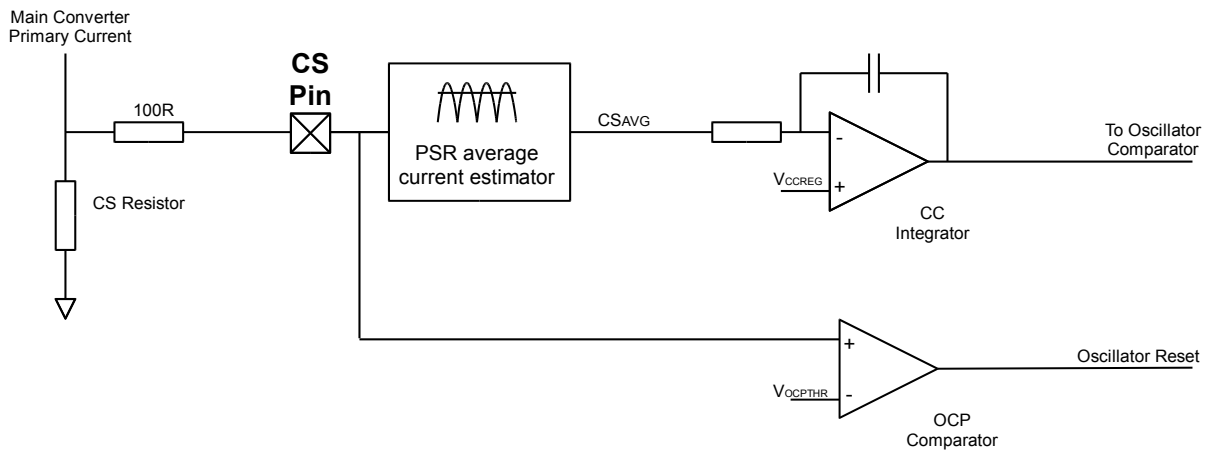

Figure 7: RED2511 Current protection and control circuits
Figure 7 shows the two current control methods used in the converter:
Shown in figure 7 the signal from the CS pin is divided into two different paths. The bottom path provides peak instantaneous over-current protection (OCP) while the PSR Average Current estimation block provides the current regulation (CC) information. The voltage on the CS pin is an AC signal biased around GND. Inside the PSR block this signal is processed to provide a voltage proportional to the average converter output current.
The CC regulation circuit is shown in Figure 7. CC operation is defined by an internally compensated control loop. This provides a system response time of approximately 300us in a typical application. The average current regulation point, V_{CCREG} is pre-set to 150mV, referred to the CS pin.